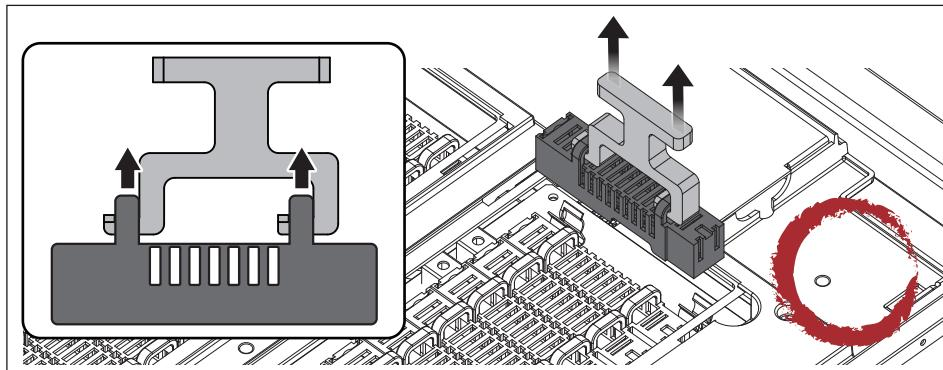

Figure 5-11: Accessing the individual fuses
**Figure 5-10** shows the location of the combiner fuse holders and shield cover, and **Figure 5-11** provides details to remove a fuse; refer to **Figure 2-5** for additional information.
4. Based on step 1, check the corresponding fuse locations by pulling out the fuse holder (**Figure 5-11**) and checking continuity of the fuse.